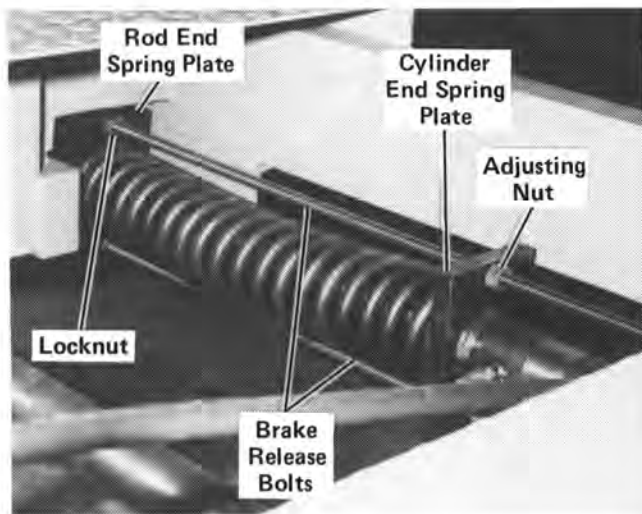

Figure 17
- A. Insert the two threaded brake release bolts through the holes in the cylinder plate so that the bolts extend through the plate several inches. See Figure 17.